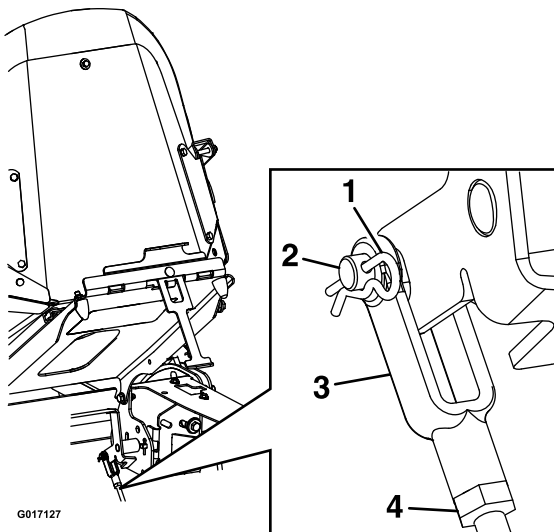

Figure 27
7. If adjustment is necessary, loosen the jam nut from the yoke on the side that needs adjustment. Remove the hairpin and clevis pin (see Figure 27).